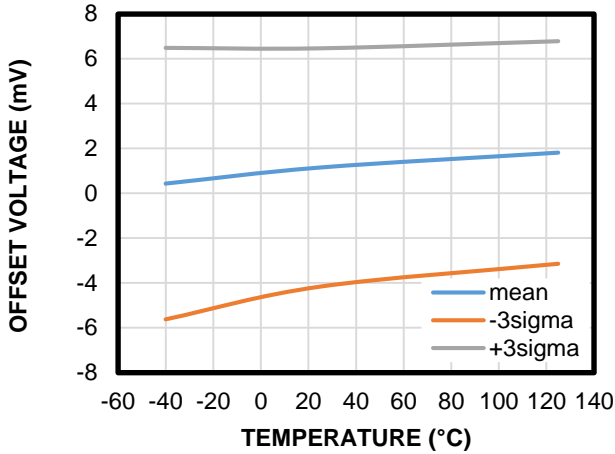

**Figure 1: Total Resistance**
- 10) The resistance is defined as the total resistance measured from a point of the lead next to the solder joint, assuming that the two  $I_P+$  pins (and  $I_P-$  pins) have the same potential (see Figure 1). This definition corresponds to the effect resistance used to estimate the joule heating, calculated with  $R \times I_P^2$ .